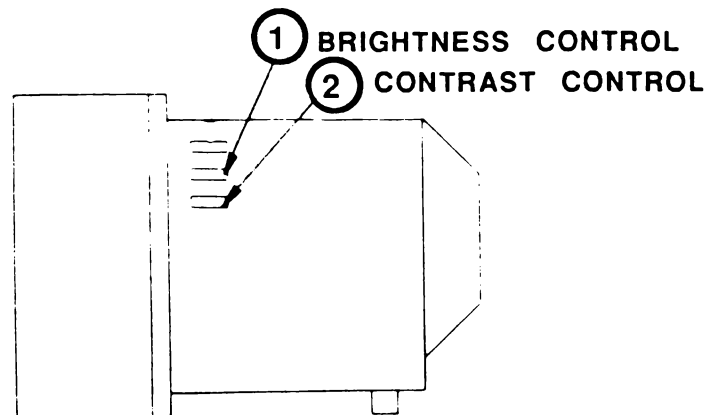

FIGURE 1
2. Adjust the BRIGHTNESS control (Figure 1, #1) to its detent (click) position.
3. Adjust the CONTRAST control (Figure 1, #2) to its maximum clockwise position.